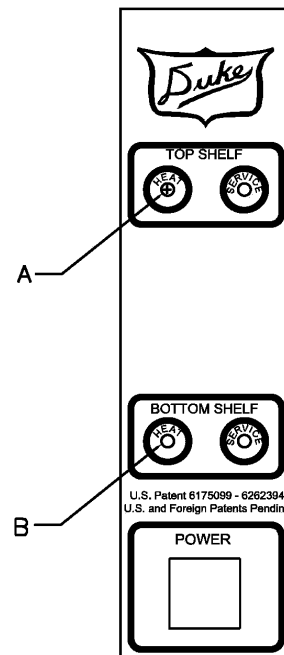

Figure 4.2
4. Observe the front of the control (Figure 4.2). Press and release S1 on the back of the control until the desired light on the front of the control flashes. (see Table 1)